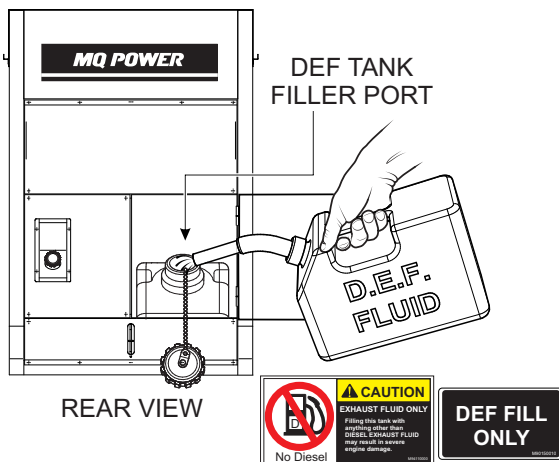

Figure 33. Filling The DEF Tank
1. Remove the **DEF tank filler cap** (Figure 33).